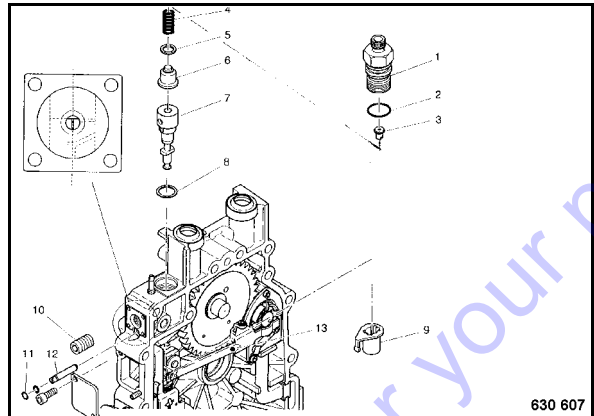

Fig. 82
- Screw the pressure valve holder 1 (Fig. 82) on with the O-ring (2).
- Remove filling piece (3), spring (4), seal ring (5) and pressure valve (6).
- Take the compensation shim 8 (Fig. 82) out.
Before inserting the pump element hold the control sleeve 9 (Fig. 82), so that it cannot fall into the engine housing!
- Insert the compensation shim 8 (Fig. 82).